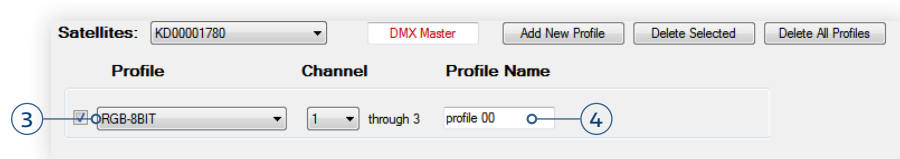

fig. 142
- 3 **Configure your profile.** As in fig. 142, choose from the dropdown of supported profile types, and select a starting channel. Make sure the checkbox next to the profile dropdown is checked if you want your configurations to be saved to the N3 Satellite.